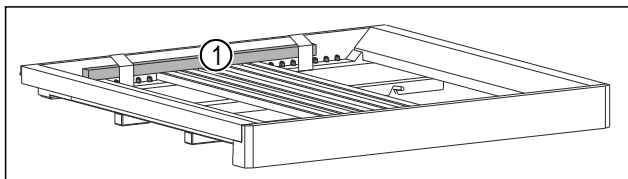

Fig. 7*
- ▶ Remove the wooden stick *Fig. 7 (1)*.*